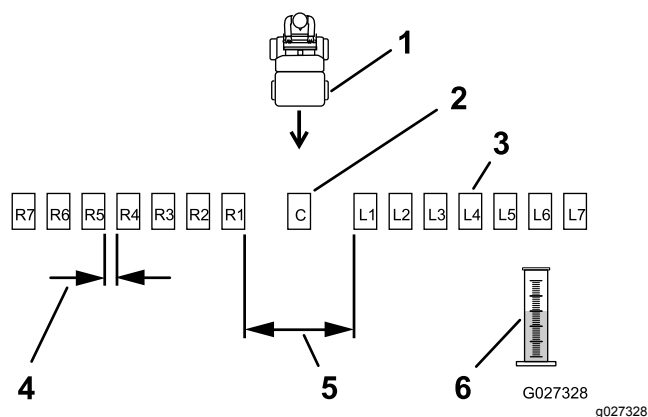
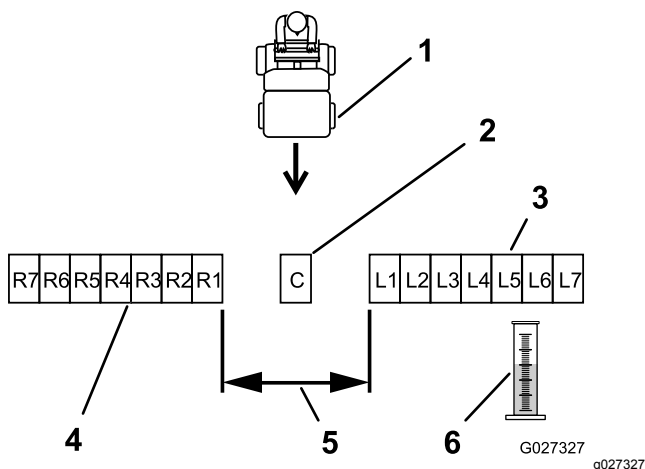

Figure 22
Figure 23
2. Place the remaining pans in a straight line as shown in Figure 22 or Figure 23.
Space 6 additional pans, on each side, 12 inches (30 cm) apart (Figure 22).
Place 6 additional pans, on each side, with no gap in between each pan (Figure 23).
6. Label each graduated measuring cylinder to correspond with the distribution pans (such as L2, L1, Center, R1, R2); refer to Figure 22 and Figure 23.